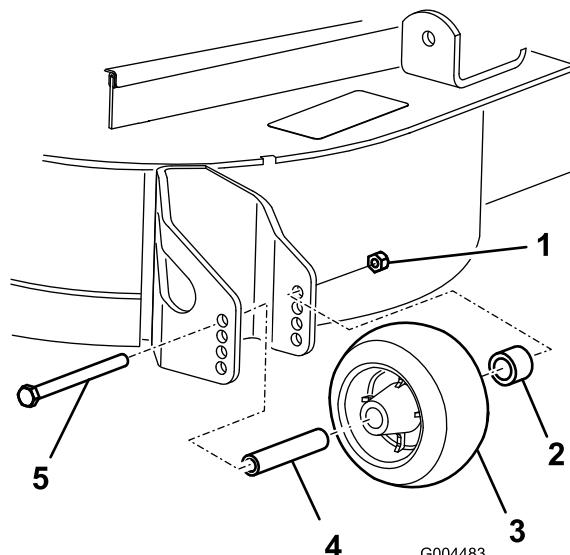

Figure 22
3. After adjusting the height of cut, adjust the rollers by removing the flange nut, bushing, spacer, and bolt (Figure 22).
Note: Torque to 54-61 N-m (40-45 ft-lb) (Figure 22).